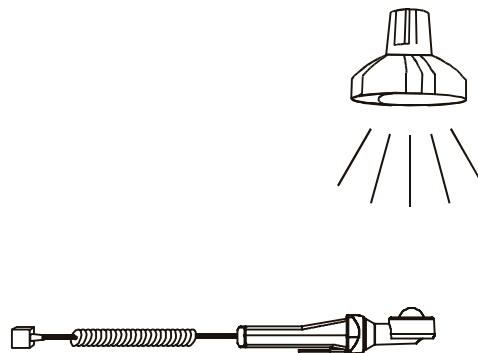

Figure 5.56: LUXmeter probe positioning
Step 3 Follow the positioning diagram shown in figure 5.56 to perform illumination measurement. Turn on the LUXmeter probe by pressing its ON/OFF key. Green LED should light. Use the **Help** function if necessary.